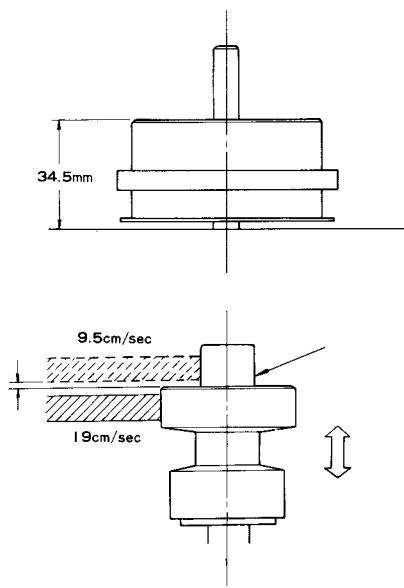

Fig. 14
8. REEL SPINDLE HEIGHT ADJUSTMENT (Refer to Fig. 14)
- (1) Measure the reel spindle (116, 117) height from the main chassis (069) as shown in Fig. 14.
- (2) If it is normal, the height measures approximately 34.5mm. If the height is not normal, adjust it by the washer in the reel spindle.